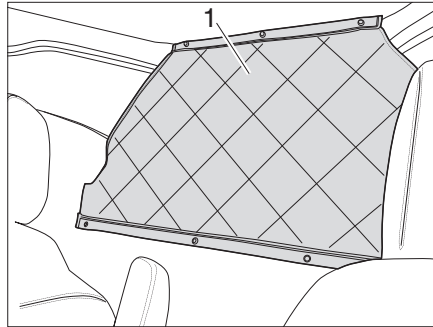

Fig. 7 Rolling up the access cover
- Open the entrance cover (Fig. 7,1) and roll it up.